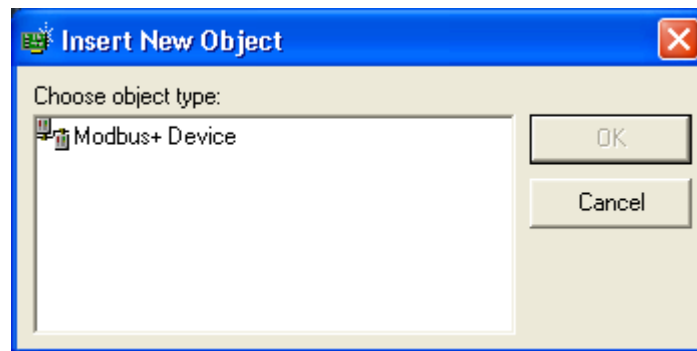

Figure 10 - Insert New Object
- The **Insert New Object** window (Figure 10) appears.